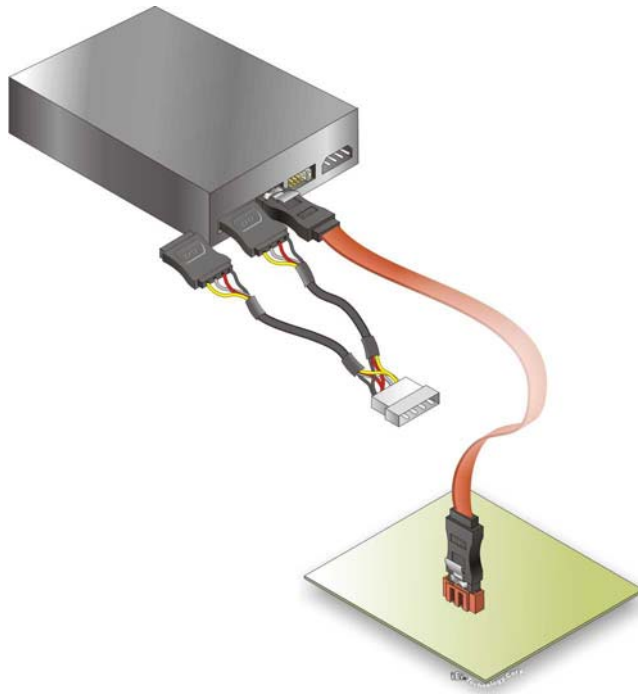

Figure 4-11: SATA Power Drive Connection
- Step 3:** **Connect the cable to the SATA disk.** Connect the connector on the other end of the cable to the connector at the back of the SATA drive. See Figure 4-11.
- Step 4:** **Connect the SATA power cable.** Connect the SATA power connector to the back of the SATA drive. See Figure 4-11.